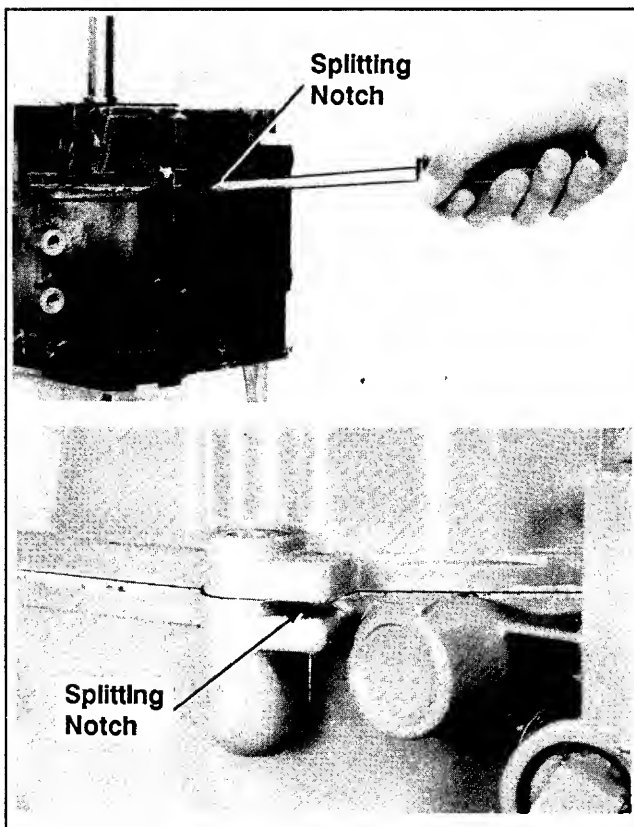

Figure 9-24. Splitting The Closure Plate/Crankcase.
2. Locate the splitting tabs in the seam of the closure plate and crankcase. Pry the closure plate from the crankcase using a large, flat-blade screwdriver. See Figure 9-24.